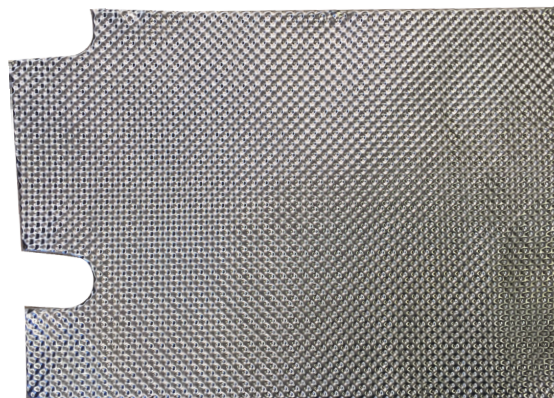

Figure 10
11. Find the flexible aluminum shield with insulation. This will be placed behind the passenger side between the engine. Fig 10